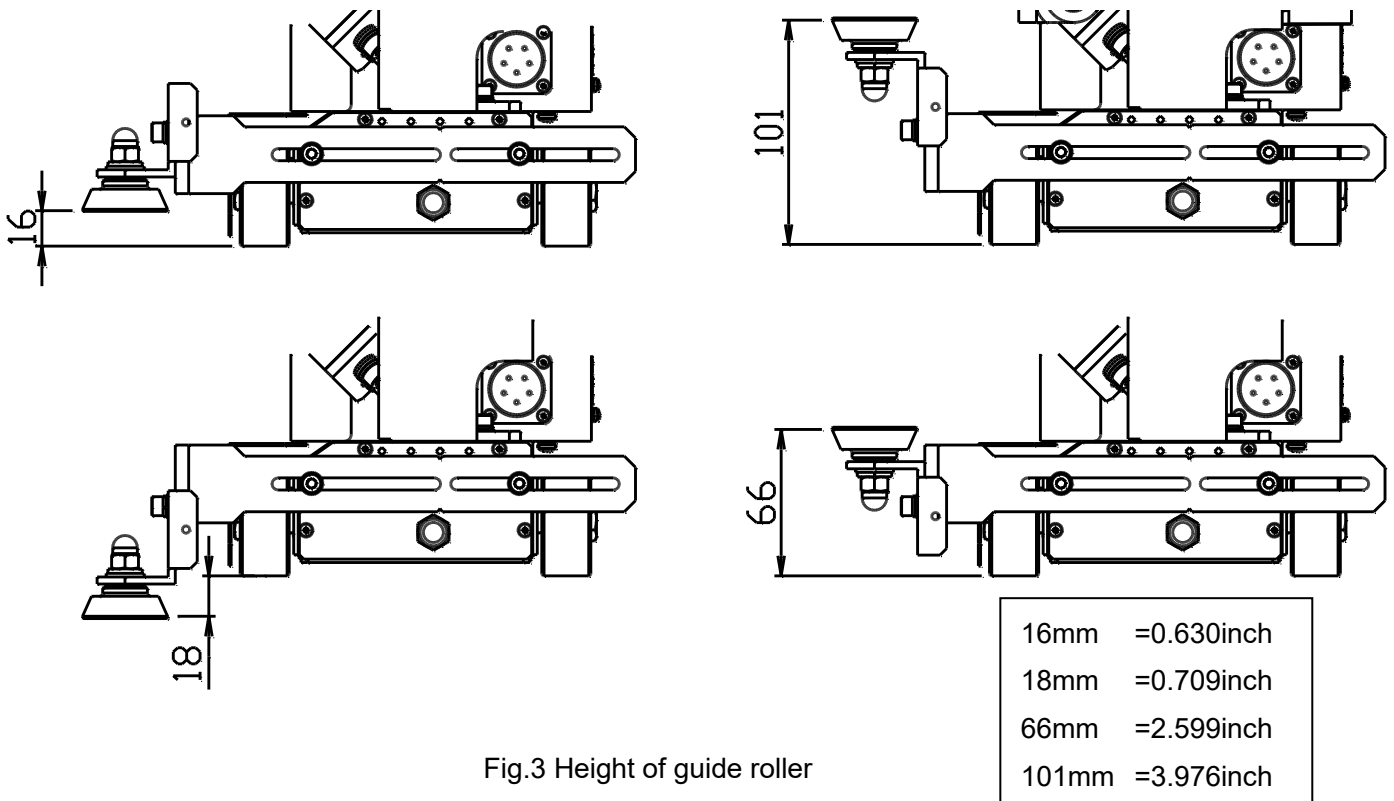

Fig.3 Height of guide roller
- 6) The height of the guide rollers can be widely adjusted. (cf. Figure 3.)